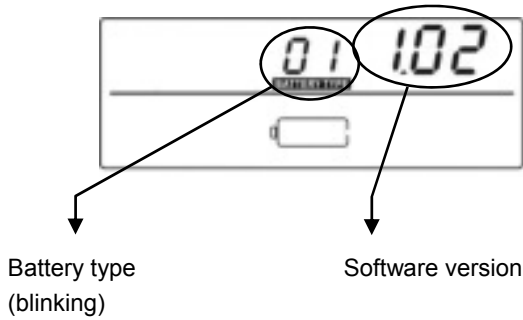

Figure 15: Software version
- The version of the installed software is shown at the right upper side of the display (Figure 15);